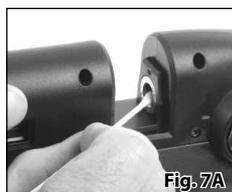

Fig. 7A
3. Using a cotton swab, lubricate the breech o-ring and bolt tip as shown in Figure 7A. Crosman RMC Oil is recommended for this application. Perform this procedure at approximately 100 shot intervals.